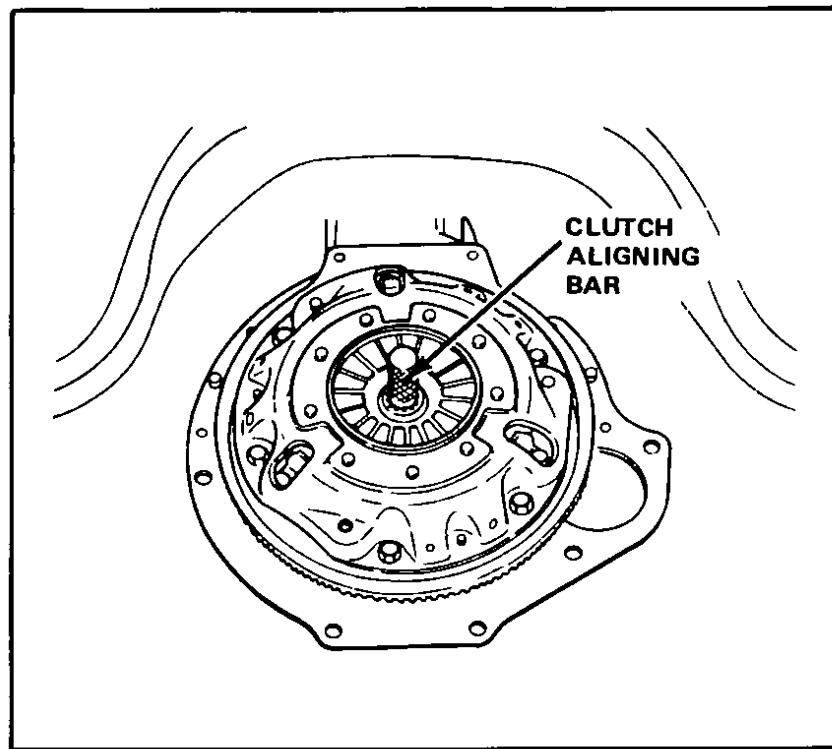

Fig 142 Supporting clutch assembly
- 2 Insert the clutch aligning bar into the clutch disc hub until it will go no further. It is important to support the weight of the clutch disc in the steps that follow, Fig 142